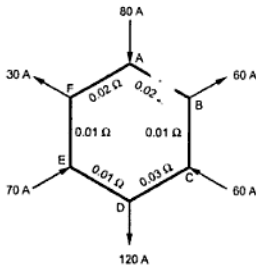

Fig. 1.81
22. Find the current in all the branches of the network shown in the Fig. 1.81.